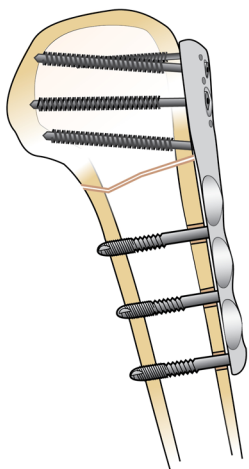

Fig. 24
**WARNING:** A MINIMUM of three (3) *MotionLoc* Screws on the diaphyseal side of the fracture are required to be placed in the shaft of the bone distal to the fracture in proximal humerus and proximal tibial fractures (Fig. 24).